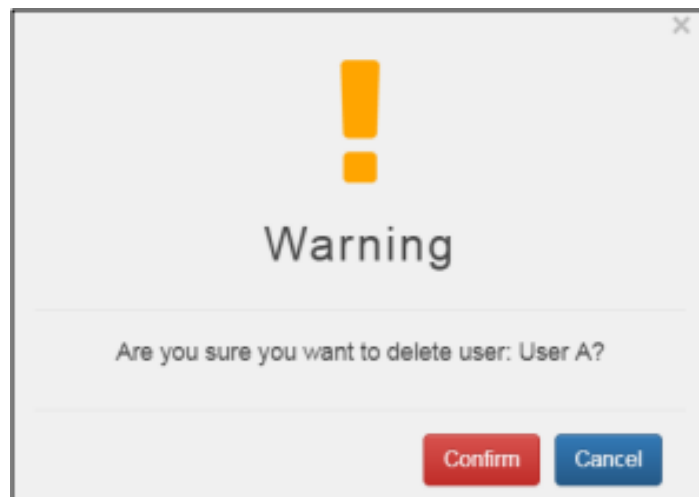

Figure 29 User Delete Warning
- When the warning message appears, as in figure 29, click Confirm.